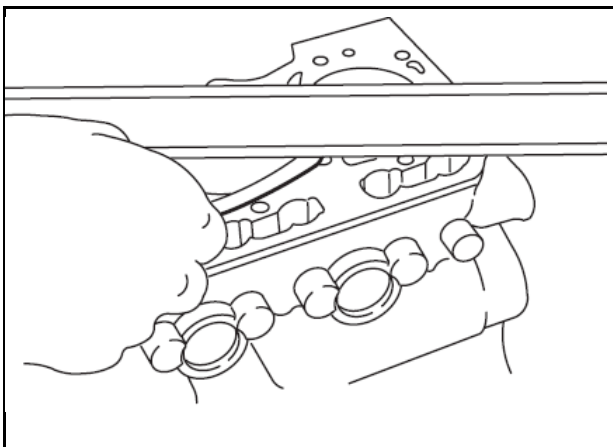

Fig.1-Checking Cylinder Block
1. Check cylinder block deck for distortion, Fig.1.